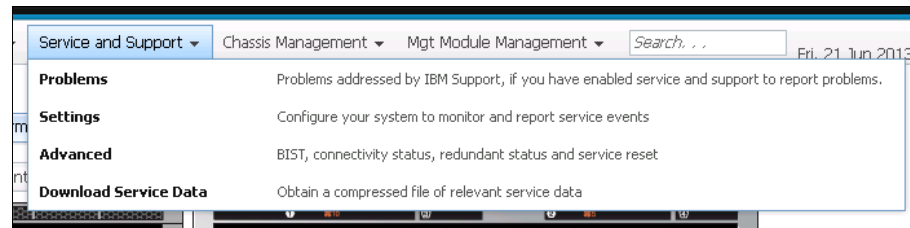

Figure 7-12 Service and support options
- ▶ Service and Support, as shown in Figure 7-12